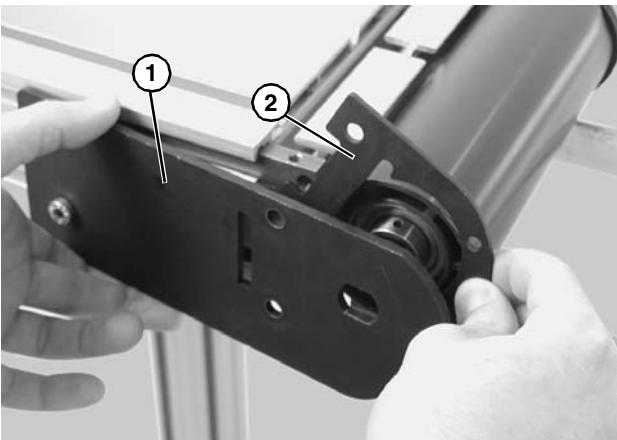

Figure 50
3. Pull back the outer headplate (**Figure 50, item 1**) and remove the inner spacer (**Figure 50, item 2**).